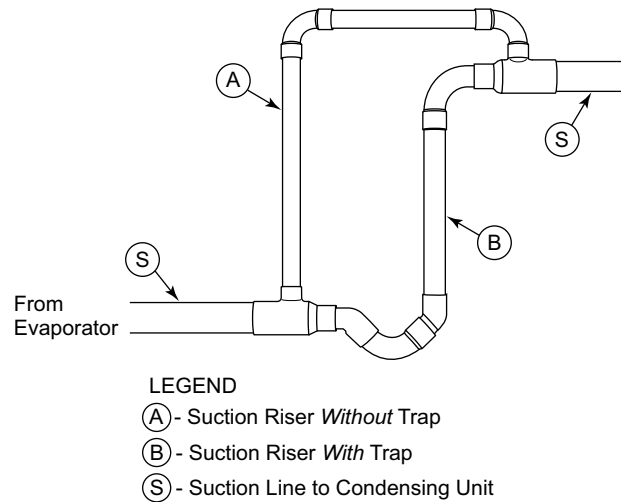

Fig. 6 — Suction Line Piping — Double Riser
- See Fig. 6 for double riser diagram.
See Fig. 6 for double riser reference, where, tube S is the horizontal line size, tube A is the reduced diameter riser size without bottom trap, and tube B is the parallel riser size with bottom oil trap.